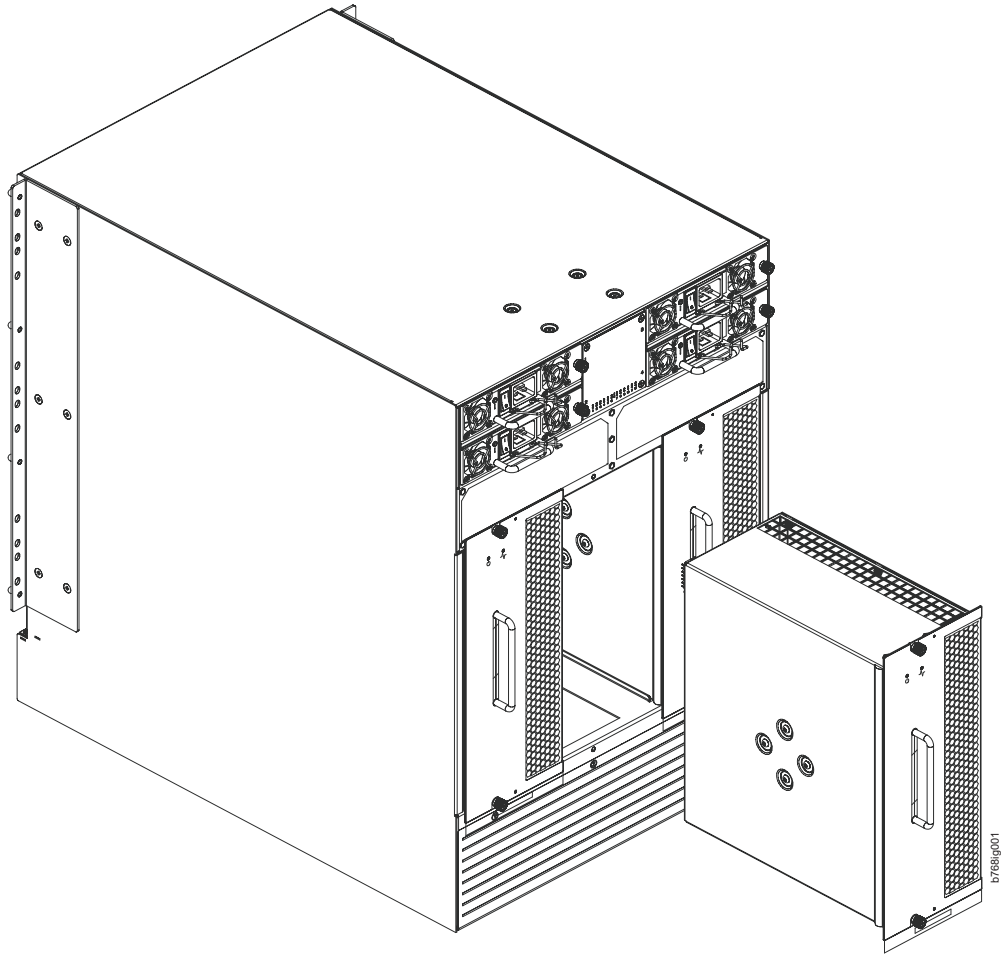

Figure 37. Removal and replacement of the blower assembly
2. Use the Phillips screwdriver to loosen the captive screws at the top and bottom of blower assembly (see Figure 37 on page 104).